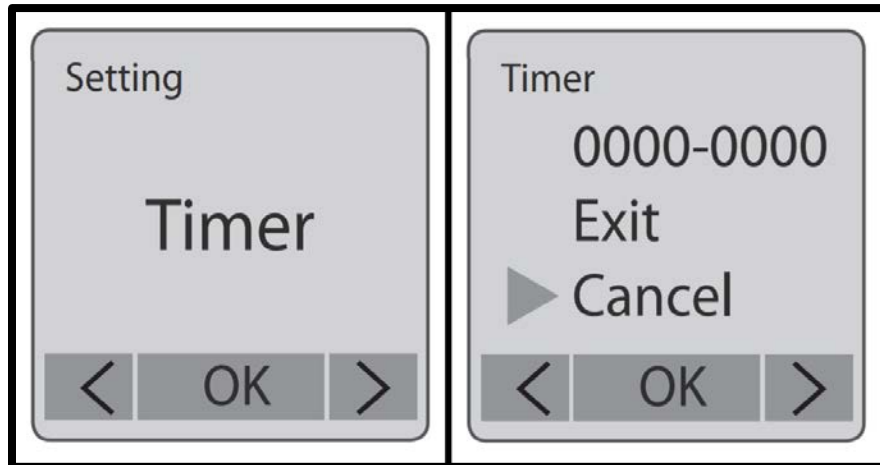

Figure A.11.6: Configuring the timer.
7. Press the "OK" button to re-enter the "Settings" screen. On this screen, use the "MENU" and "TIME" buttons to navigate to the "Time" option as shown on the left of Figure A.11.6. Press the "OK" button to select this option.
- a. Use the "MENU" and "TIME" buttons to move the arrow to the "Cancel" option as shown on the right of Figure A.11.6. Press "OK" to select this option. The "Timer" option allows you to pre-set a recording period. For example, you can set the timer to be between "0600 – 1200", which means that time lapse photos will only be taken between the hours of 6 AM to 12 PM. Pictures must be taken continuously, which is why the "Cancel" option was selected.